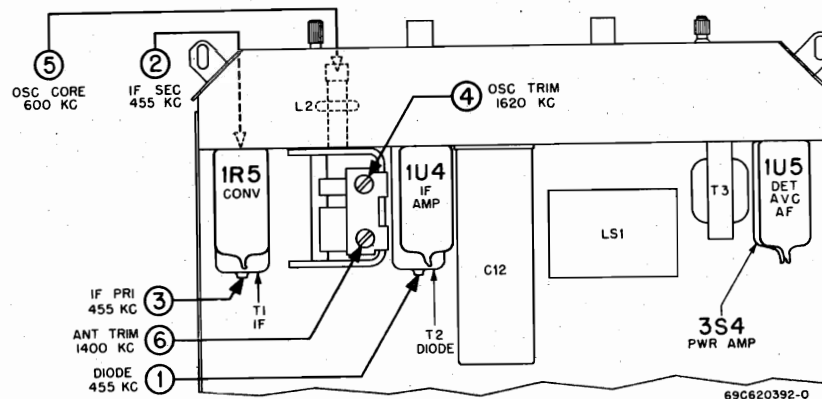

FIGURE 4. TUBE & TRIMMER LOCATIONS
7. See Figure 4 for adjusting locations and the following chart for procedure.